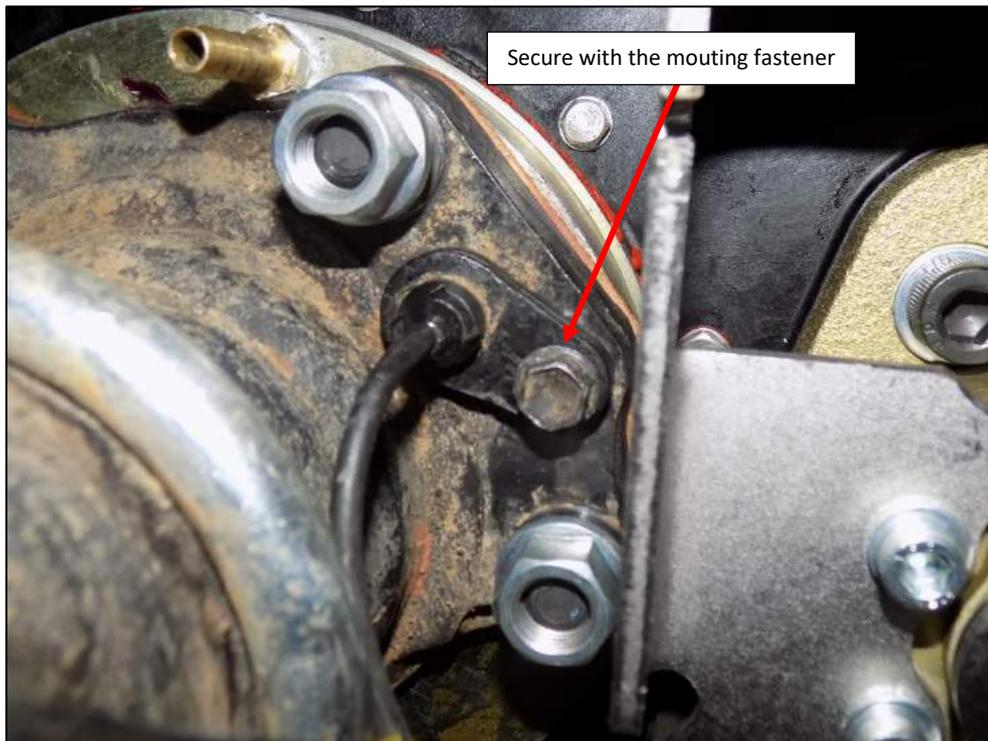

Figure 10
21. **[ABS equipped vehicles only].** Secure the ABS sensor using the OEM fastener (Figure 10).